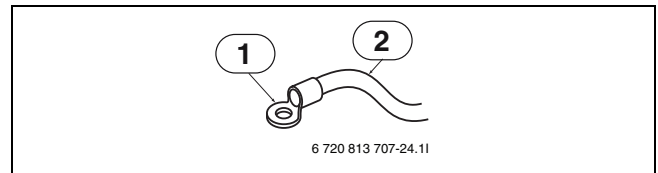

Fig. 27
- ▶ Round pressure terminals (→Fig. 27) should be used to connect the earth to the main PCB.